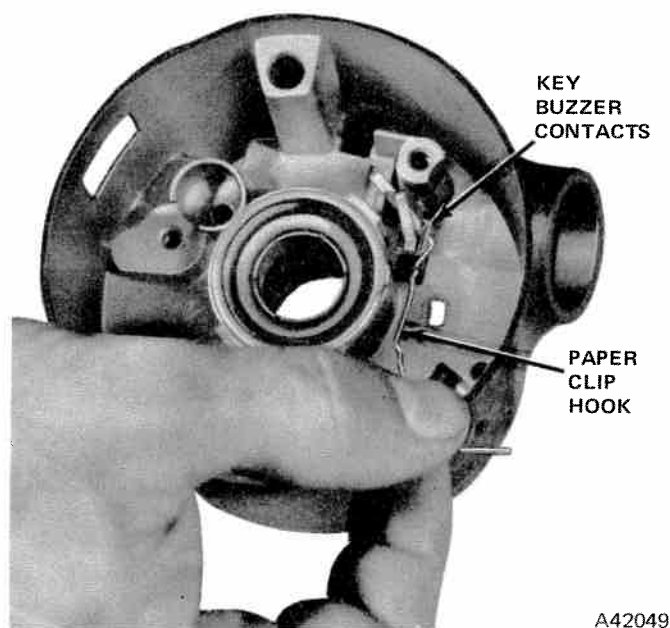

Fig. 11-9 Removal of Key Warning Buzzer Contacts
- (17) With key in on position, remove key warning buzzer contacts using a wire hook (a paper clip with a right angle bend) or needlenose pliers (fig. 11-9).
(1) On column shift steering columns, rotate shift bowl counterclockwise to stop, and install upper housing on column. On 01-40-70 Series with automatic transmission column shift, guide shift quadrant light wire and remote lock rod into position between shift bowl and mast jacket.
(2) Install key warning buzzer switch with brass tabs pointing upwards toward shift indicator (fig. 11-9).
(3) Install directional signal switch assembly. Guide wire harness into position and carefully align switch assembly.
(4) Untape connector, assemble wires into protector and protector-to-column jacket, and install switch retaining screws.